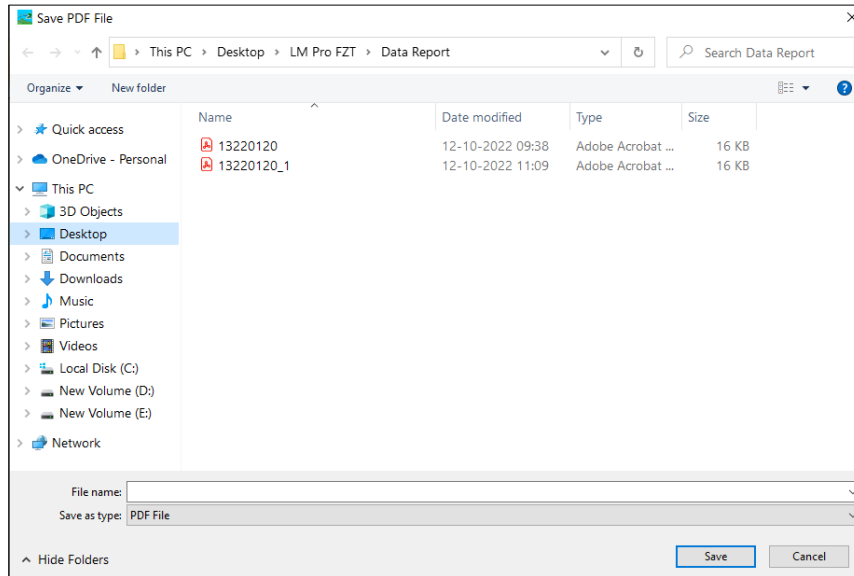

Figure 21 Selecting file location for saving PDF report
- After that and generate the PDF report of data summary by clicking on  icon. A pop up window will appear for selecting the file path and filename of report to be generated as shown in figure 21.